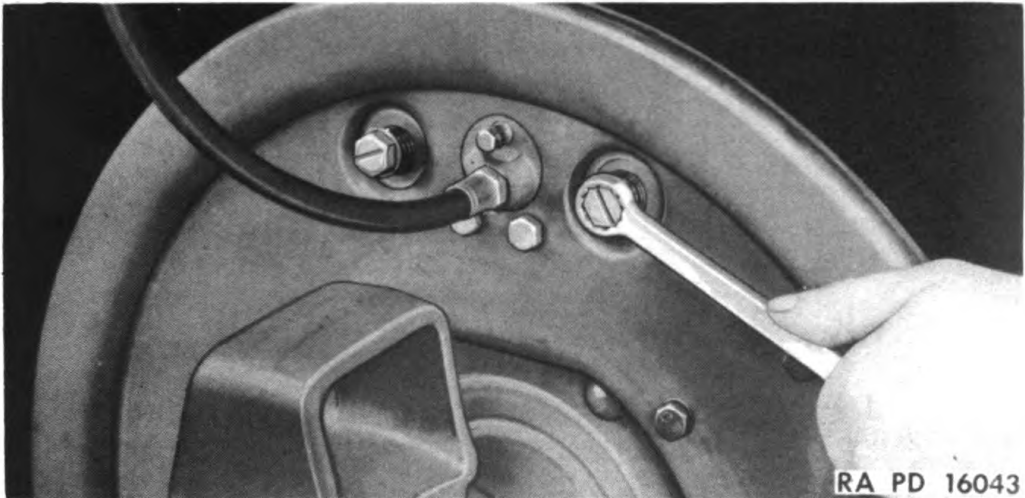

Figure 60—Adjust Rear Brakes by Turning Pinion Studs in Clockwise Direction as Indicated by Arrows
c. Rear Brake Adjustment (Fig. 60)
(1) Check wheel bearing adjustment
Use wrench on hex head adjusting pinion shaft as shown in Fig. 60. Turn adjusters in clockwise direction until lining causes slight drag against brake drum as wheel is turned by hand. Back off adjuster $\frac{3}{4}$ of a turn which will provide proper running clearance between brake lining and brake drum. There are two adjusters at each wheel. Adjust all four brake shoes equally on each axle. Lower wheel to ground by removing jack from underneath axle.